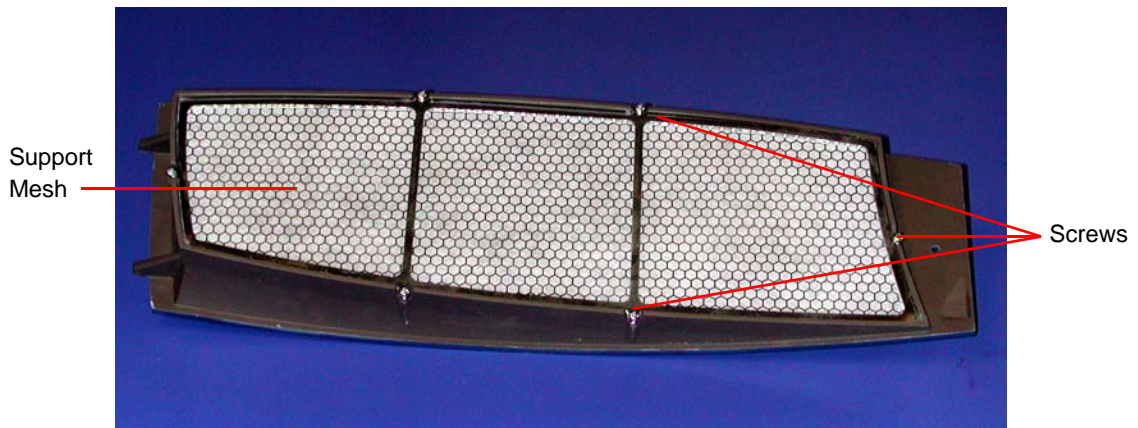

Figure 8-2 Filter Assembly Removed
3. Remove the six screws holding the support mesh in place (Figure 8-2).